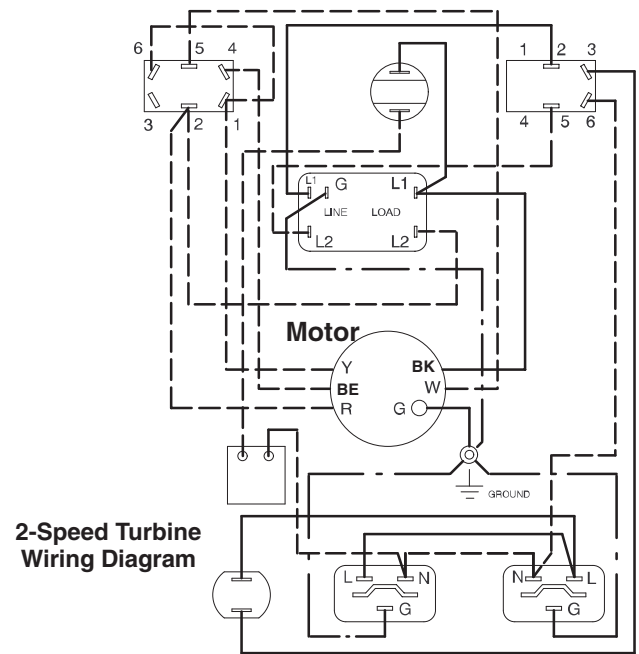

Fig. 4
4. Remove turbine gasket (25), three screws (6), turbine plate (82), and three turbine spacers (83).
**NOTE:** Steps 5 and 8 apply only if your GTS-4900 turbine sprayer has a speed controller (48). Installation of this 2-Speed Turbine Conversion Kit does not include reconnecting wires to the speed controller. The speed controller is no longer used with the 2-speed turbine.
5. Remove turbine motor wires from spade terminals on speed controller (48).
6. Rotate turbine (24) from outlet fitting (18), and lift up from turbine spacers (23) and turbine duct (5) to remove.
7. Remove rocker switch (31) and wires connected to it (Fig. 4 wiring diagram).
8. Remove remaining wires connecting speed controller (48) to suppression filter (30) and filter indicator light (33).
See Wiring Diagram in Fig. 4.